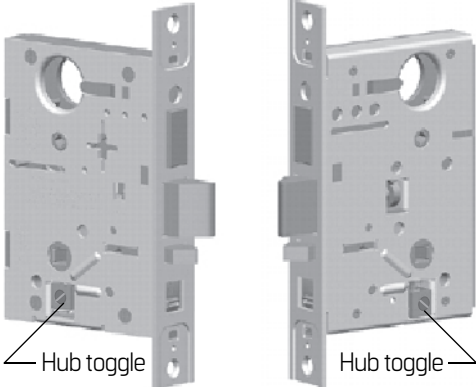

Figure 6.3 Positioning the hub toggles
- 2. To change the position of a hub toggle, remove the toggle screw, move the toggle into the desired position, and re-tighten the screw. See Figure 6.3.